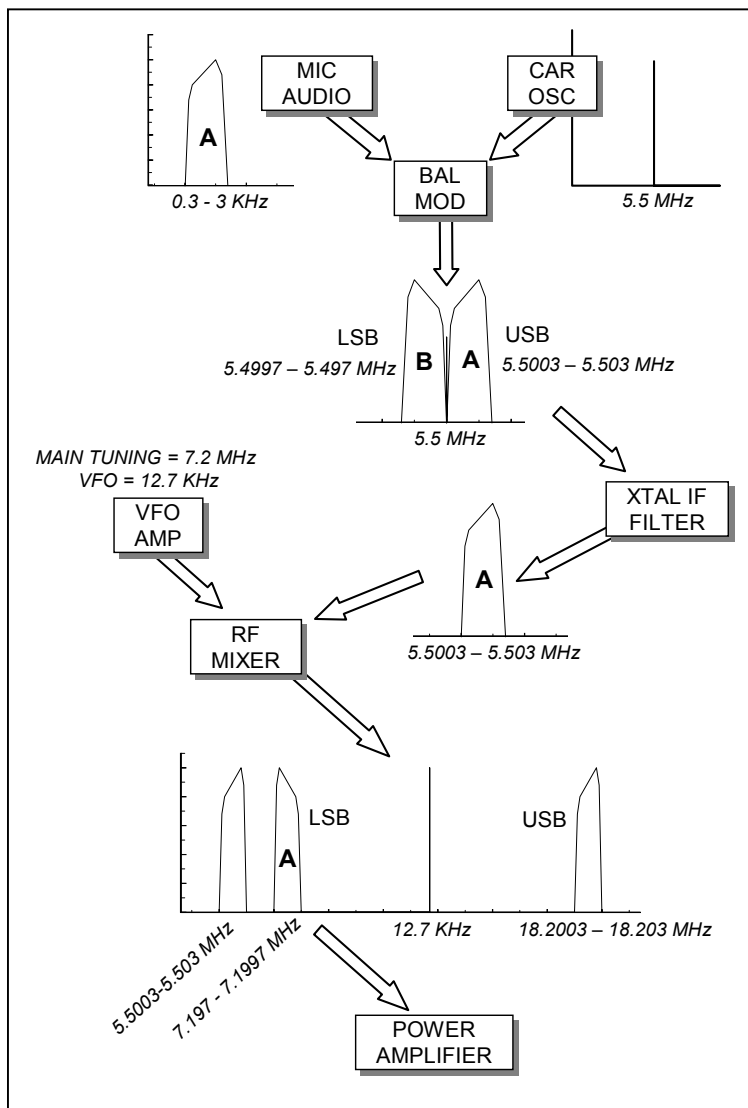

Figure 6-6 SSB Signal Mixing and Filtering
How are the signals manipulated or processed by the transceiver as they pass through the various electronic stages? While almost all Swan manuals give a block diagram describing the signal flow through the various circuit sub-sections (e.g. microphone amplifier to transceiver audio amplifier to the mixer, etc.), such a presentation gives a poor innate feel as to what's actually happening to the signals. Figs. 6-6 and 6-7 are intended to provide a more intuitive understanding of the audio signal flow during the transmission process, in the first case focusing on the mixing and filtering processes for SSB signal generation, and in the second case focusing on a CW signal's flow through the power amplifier.
Fig. 6-6 shows a graphic overview of a SSB signal generating process from the microphone's output to the power amplifier's control grid, illustrating the carrier oscillator and VFO signal mixing processing that results in the translation of the audio information from the acoustic base-band frequencies up to the desired RF frequency. In this case, the signals are presented in terms of their frequency content (i.e. spectral amplitude versus frequency), similar in format to a display from a FFT analyzer, rather than the analog time display (i.e. signal amplitude versus time), such as is seen on an oscilloscope. If the same time segment is displayed, both of these formats are in fact presenting the same information.
As shown in Fig. 6-6, the balanced modulator inputs the base-band audio information (labeled A) from the microphone audio amplification circuit along with the 5.5-MHz carrier oscillator's (CO) sinusoidal signal. In this case, only the portion of the signal spectrum about the 5.5-MHz CO frequency at the output of the mixing process is shown – the mixed composite output signal still contains the original base-band audio information at the 300 to 3,000-Hz audio frequencies (not shown). Notice that the USB retains the same spectral shape as the original audio base-band signal (300 → 3,000 Hz = 5.5003 → 5.503 MHz), while the LSB is inverted (i.e. 300 → 3,000 Hz = 5.497 ← 5.4997 MHz, that is, the LSB spectral information is inverted in frequency, with the 300 Hz information at a higher IF (5.4997 MHz) than the 3,000-Hz audio information. While an indication of the 5.5 MHz CO signal is depicted in the graphic, the balanced modulator normally suppresses the carrier oscillator frequency by 40 to 50 dB or more.
Opposite Sideband Selection. What happens when a receiver equipped with both normal and opposite sideband capability is switched to the opposite sideband (USB, in this case)? The only thing that really happens is that the CO frequency is shifted-up in frequency by 3.3 kHz, from 5.5 MHz to 5.50033 MHz. This shifts the IF mixer's output spectrum to the right by 3.3 kHz, so that the LSB (labeled B) is aligned with the IF crystal filter's fixed bandpass. All other aspects of the signal flow remains the same – after passing through the RF mixer, sideband B is then inverted in the RF mixing process. The RF mixer's two sideband outputs shown in Fig. 6-6 have now been transposed or swapped, so that the information contained in the mixer's LSB output at 7.2 MHz transmission frequency is actually the USB non-inverted audio signal information, since the input was the LSB (sideband B) from the balance modulator, rather than the USB (sideband A) as was the case with the normal sideband selection on 40 meters, exactly what we want. The transmitter audio spectral content of this USB is not inverted as it was with the normal sideband selection. Since in the receive mode, this process is essentially reversed, you can see that if the wrong sideband is selected, the base-band audio that appears at the speaker is the frequency inverted information and very unintelligible!
Power Amplification. Given the linearity limitations discussed previously of a power amplifier when operated in the AB₁ mode (i.e. a portion of the output signal lies within the tube's cut-off region of the characteristic curve), why isn't the power amplifier output signal fed to the antenna heavily distorted? In the earlier mixing example discussed in Fig. 6-6, a SSB signal using a spectrum display format was used. In this case, for simplicity, a CW signal is assumed and the conventional analog time-varying signal display format is used. Regardless of which signal or display type is used, the same fundamental signal processing behavior and characteristics still apply.